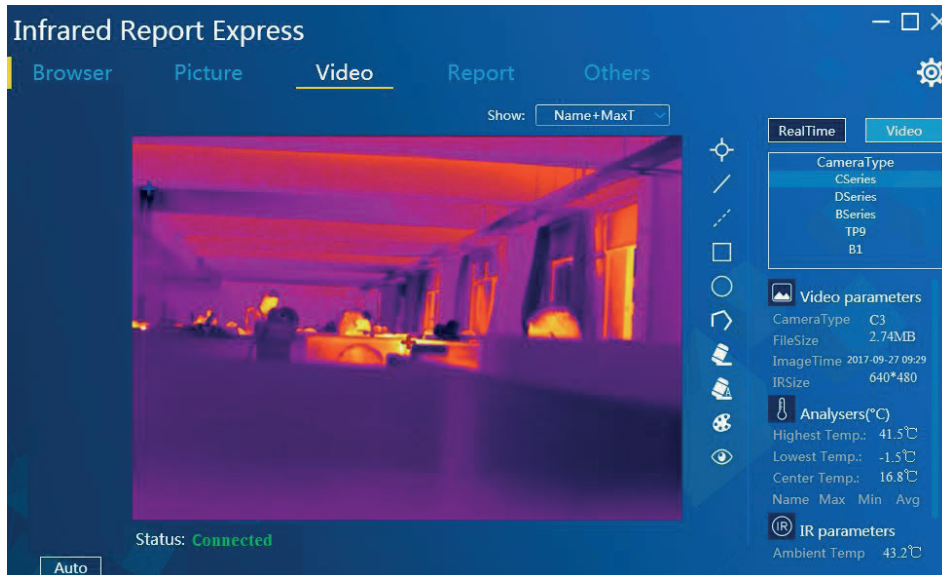

Figure 3-37
4. Click “OK” to display the real-time video after the connection is successful. See Figure 3-37: